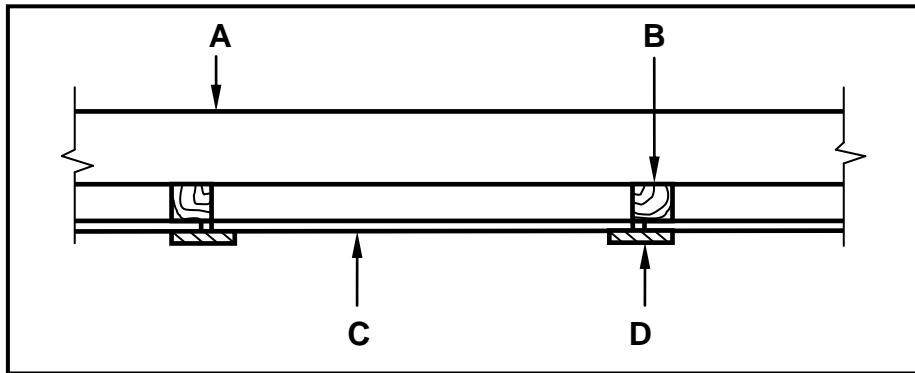

FIGURE 4.8
4.8 FIGURE 4.8 below shows a sectional view of a conventional trap door. Study the sketch en give ONE word/term for each letter (A to D) by choosing a word/term from the list below. Write only the word/term next to the letter (A–D) in the ANSWER BOOK, e.g. E – Rafter.